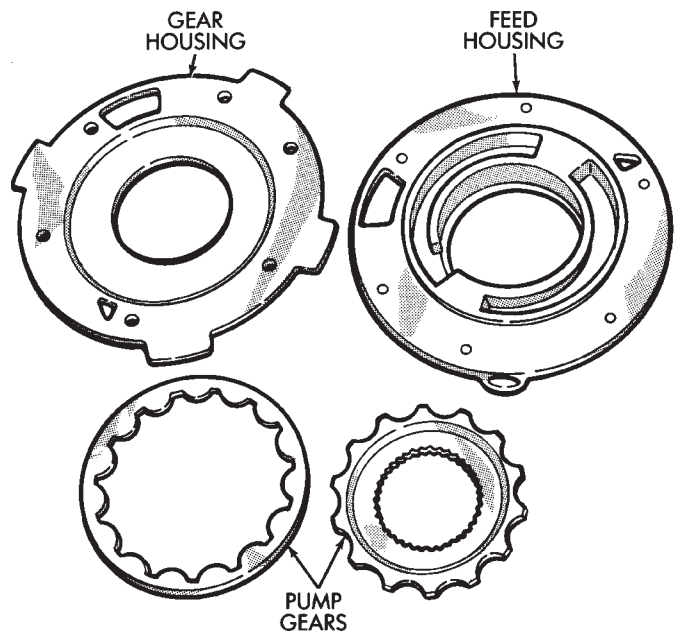

Fig. 58 Oil Pump Components
(41) If new oil pump is being installed, proceed to step (43). If original pump was only disassembled for cleaning and inspection, proceed to step (42).
(42) Assemble oil pump. Lubricate and install two gears in gear housing. Align and install feed housing on gear housing (Fig. 58). Install and tighten oil pump screws to 2 N•m (14 in. lbs.) torque.